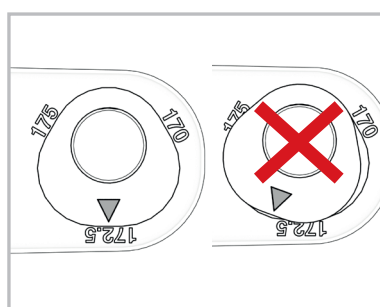

FIG. 6
- Position the arrow on the Tri-lobe washer facing the marking of the desired length. Make sure the washer is aligned correctly and sitting flush inside the crank (Fig. 6). Insert the Tri-lobe nut from the backside. Make sure the holes of the washer and nut are concentric with each other.